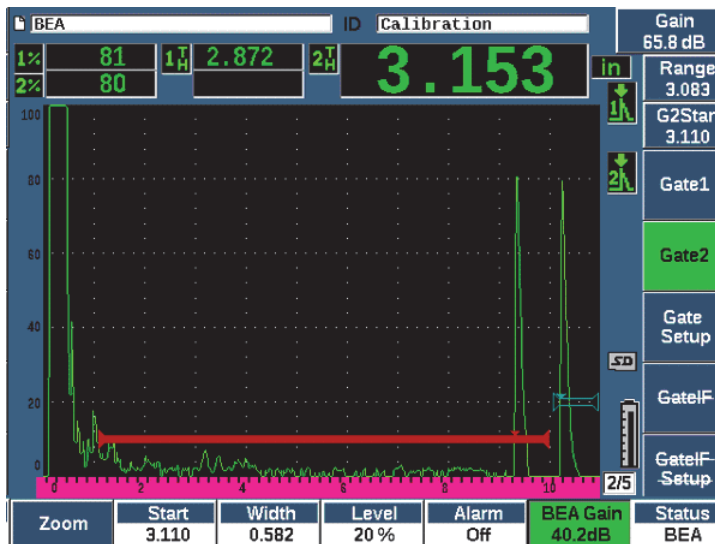

Figure 11-32 Adjusting back wall gain
2. Manually adjust the gain or press 2ND F, (AUTO XX%) to automatically adjust the echo in the BEA gate to the reference height (XX%) (see Figure 11-32 on page 282).